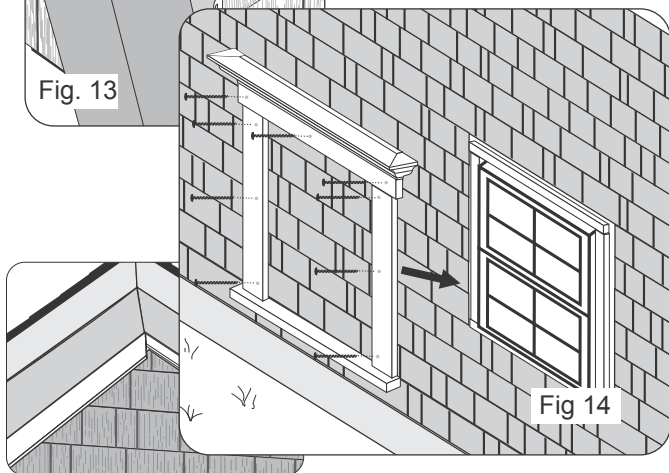

Fig 14
- Cortex® or Pro Plug® screws and matching plugs should be used when installing Celect trim. Space the fasteners no more than 16" apart and no closer than 2" from the end of the trim. Make sure not to fasten through the siding or into the expansion pocket (Fig. 14).